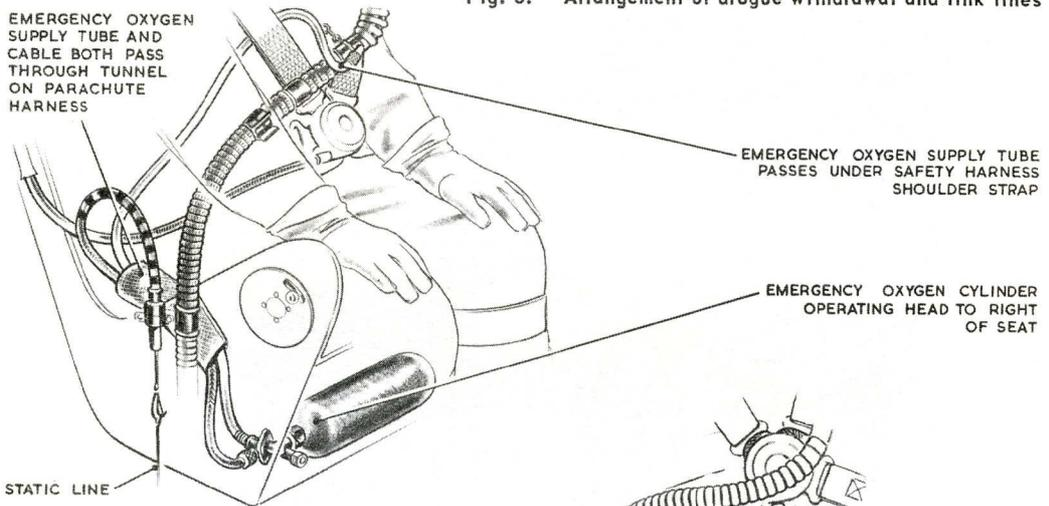

Fig. 4. Arrangement of oxygen supply on seat
12. The following strapping-in procedure is to be used; refer to fig. 4 to 7 :-